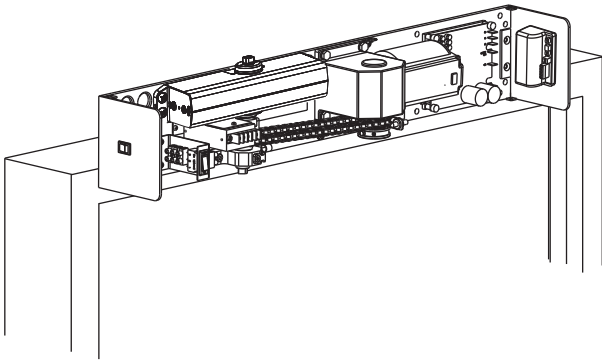

Figure 17
B. Mount unit to frame. (Figure 17)